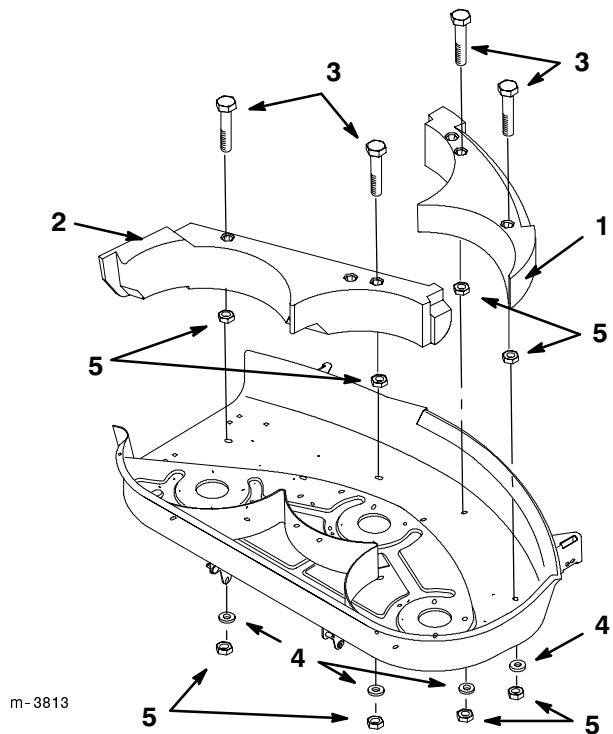

Figure 15
2. Place the left side baffle and the right side baffle inside the cutting chamber so the extended lugs are interlocked. Secure them with 4 locknuts (5/16 in.) and 4 lock washers (Fig. 15).